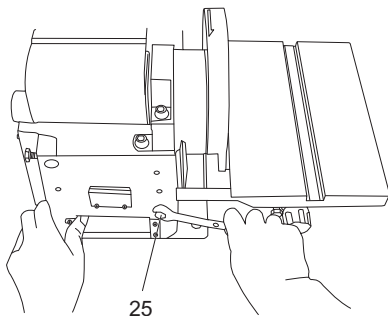

Fig. 12
- > Tighten the hex set screw (25) with the 13mm spanner (10) provided. (Fig. 12)